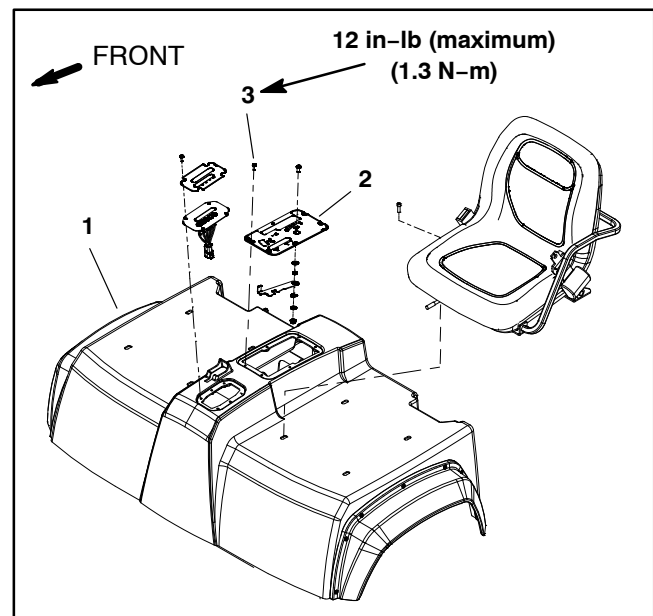

Figure 18
2. Remove knobs from control levers, then remove control plate assembly from seat base (Fig. 18).